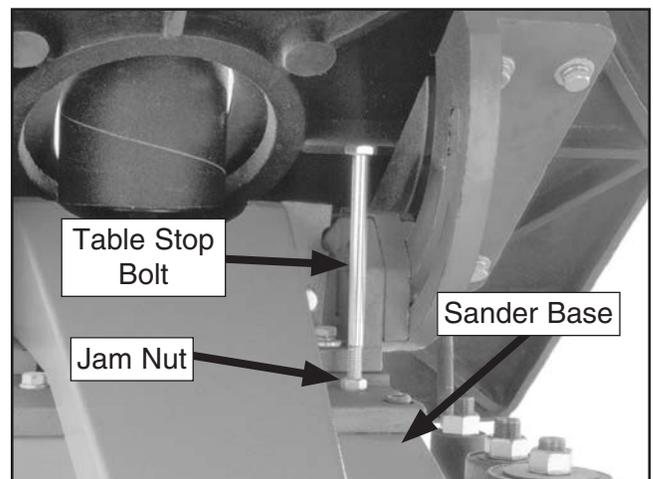

Figure 10. Table stop bolt.
5. Thread the table stop bolt and jam nut into the sander base, as shown in **Figure 10**.